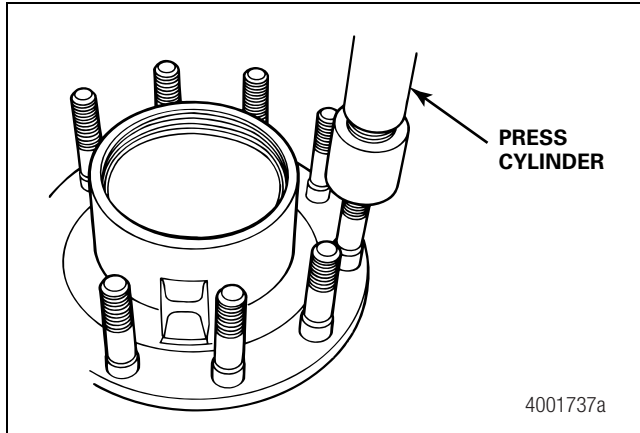

Figure 5.1
3. Use the press cylinder to push on the threaded end of the stud to force it out of the hub flange. Figure 5.1.